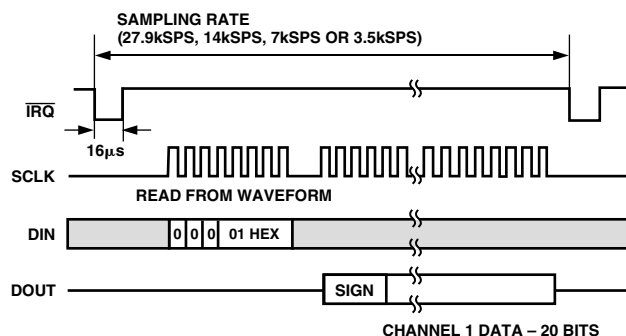
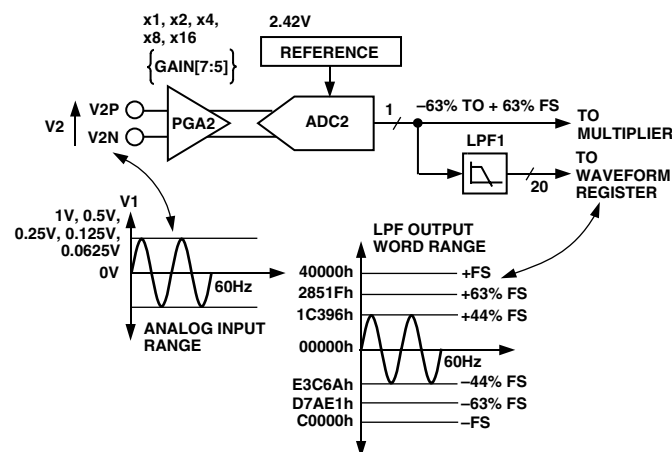

Figure 19. Waveform Sampling Channel 1
Figure 21. ADC and Signal Processing in Channel 2
Figure 21 also shows an analog low-pass filter (RC) on the input to the modulator. This filter is present to prevent aliasing. Aliasing is an artifact of all sampled systems.
When in waveform sample mode, one of four output sample rates may be chosen by using Bits 11 and 12 of the Mode register (WAVSEL1, 0). The output sample rate may be 27.9 kSPS, 14 kSPS, 7 kSPS or 3.5 kSPS—see Mode Register section. The interrupt request output $\overline{IRQ}$ signals a new sample availability by going active low. The timing is shown in Figure 19. The 20-bit waveform samples are transferred from the ADE7756 one byte (8 bits) at a time, with the most significant byte shifted out first. The 20-bit data word is right-justified and sign extended to 24 bits (three bytes)—see Serial Interface section.
Note that LPF1 does not affect the power calculation. The signal processing chain in Channel 2 is illustrated in Figure 21. Unlike Channel 1, Channel 2 has only one analog input range (1 V differential). However, like Channel 1, Channel 2 does have a PGA with gain selections of 1, 2, 4, 8, and 16. For energy measurement, the output of the ADC is passed directly to the multiplier and is not filtered. An HPF is not required to remove any dc offset since it is only required to remove the offset from one channel to eliminate errors due to offsets in the power calculation. When in waveform sample mode, one of four output sample rates can be chosen by using Bits 11 and 12 of the Mode register. The available output sample rates are 27.9 kSPS, 14 kSPS, 7 kSPS or 3.5 kSPS—see Mode Register section. The interrupt request output $\overline{\text{IRQ}}$ signals a new sample availability by going active low. The timing is the same as that for Channel 1 and is shown in Figure 19.
The Active Power signal can be read from the Waveform register by setting MODE[14:13] = 0,0 and setting the WSMP bit (Bit 3) in the Interrupt Enable register to 1. Like the Channel 1 and Channel 2 waveform sampling modes, the waveform data is available at sample rates of 27.9 kSPS, 14 kSPS, 7 kSPS or 3.5 kSPS—see Figure 19.